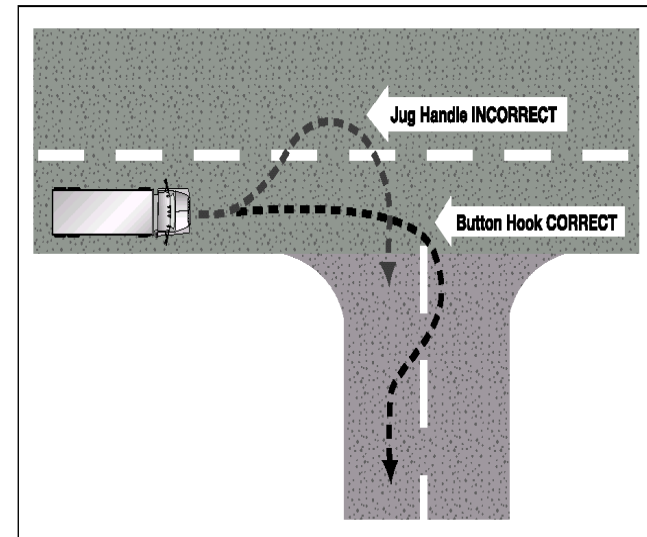

FIGURE 2.13
- If you must cross into the oncoming lane to make a turn, watch out for vehicles coming toward you. Give them room to go by or to stop. However, don't back up for them, because you might hit someone behind you. See Figure 2.13.